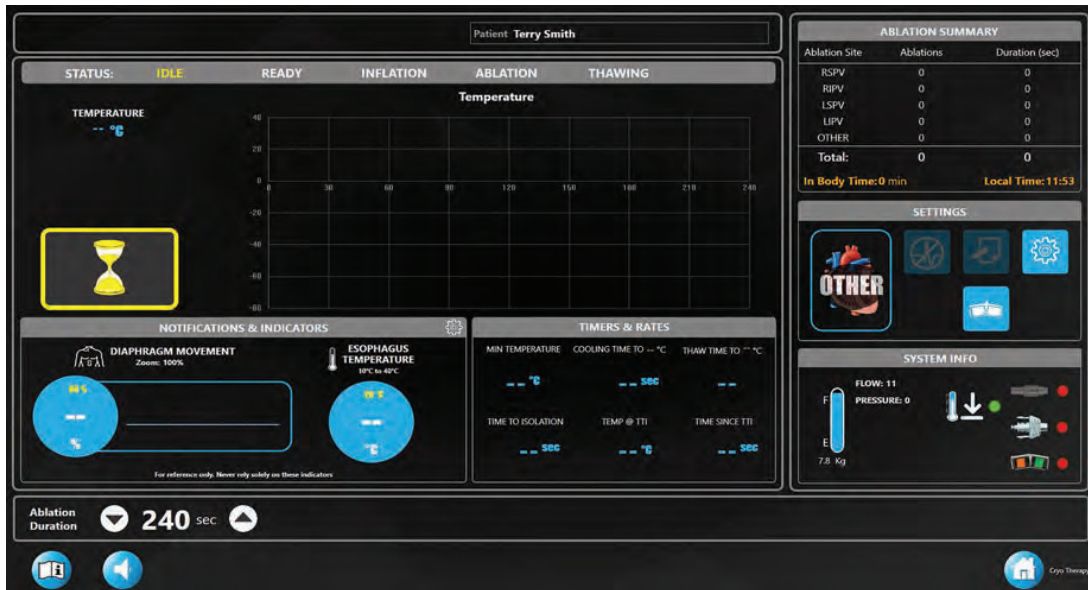

Figure 4. Therapy Screen—idle state
7. The Therapy screen will be displayed (Figure 4).
<p>Indicates the current system status (IDLE, READY, INFLATION, ABLATION, THAWING). The active state will be highlighted (the system state should indicate IDLE as shown in Figure 4).</p>